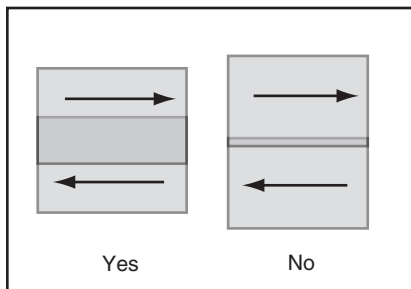

Figure 6. Overlap technique.
12. Overlap each stroke by 50%. This will ensure even coverage as shown in **Figure 6**. Overlapping less than 50%, as shown in the figure to the right, may lead to missed spots or streaky results.